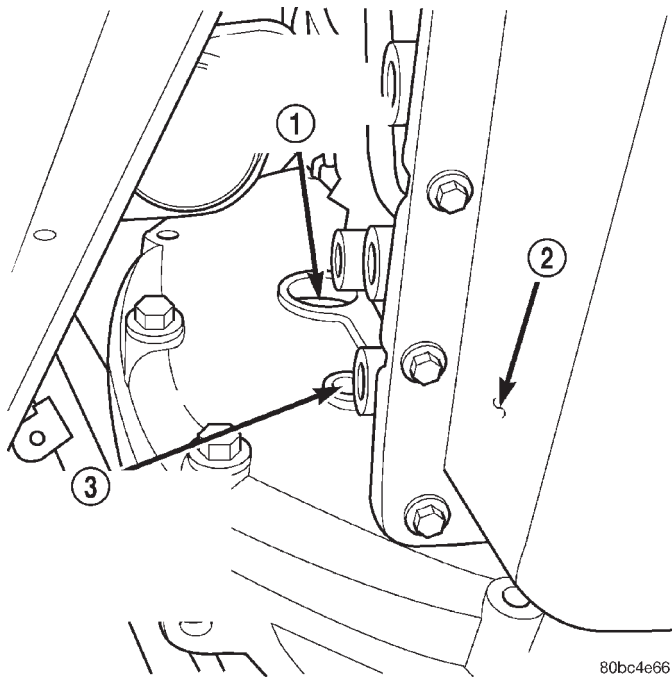

Fig. 16 Torque Converter Bolt Access Hole
(58) Working through the torque converter bolt access hole (Fig. 16), Rotate the engine to access and remove the (4) torque converter to flexplate retaining bolts.